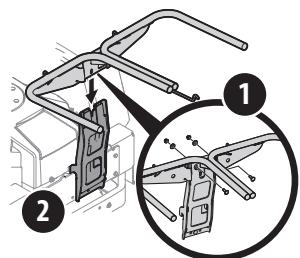

Figure 5
- Install and secure the hanger assembly (1) onto the vertical support bracket (2) using two carriage bolts (710-0276), two cup washers (736-0242) and two flange lock nuts (712-04063) from hardware pack 689-02200. See Figure 5.